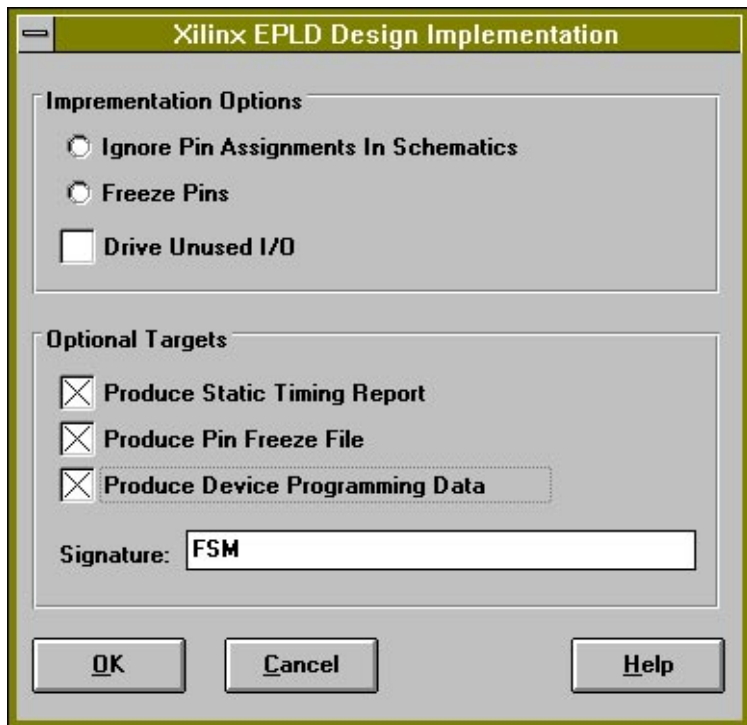

Figure 2-18 Implementation Options Dialog Box
1. Click on the **Xilinx Implementation** button in PROflow. The dialog box shown in Figure 2-18 appears: